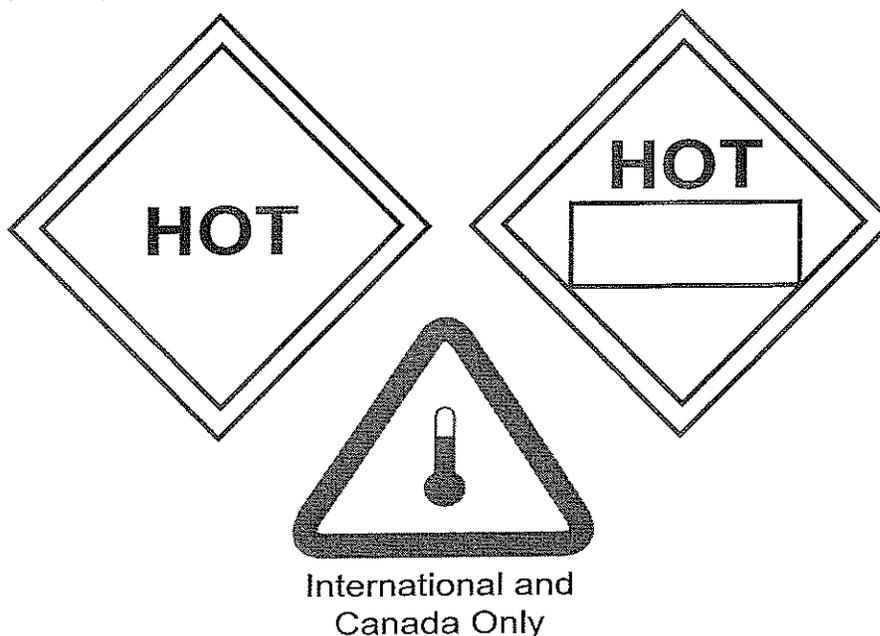

Figure 7. Hot Mark
- a. On a plain white square on point configuration having the same outside dimensions as a placard (see Figure 7),